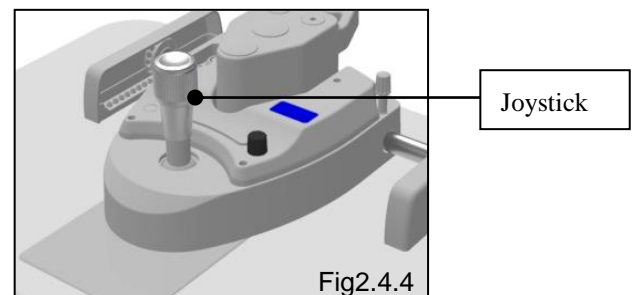

Fig2.4.4
4. Check whether the moving parts such as the slit and aperture width knob, the aperture adjustment knob, the filter selection lever (see Figure 2.4.2), the zoom knob (see Figure 2.4.3), and the joystick (see Figure 2.4.4) operate normally.